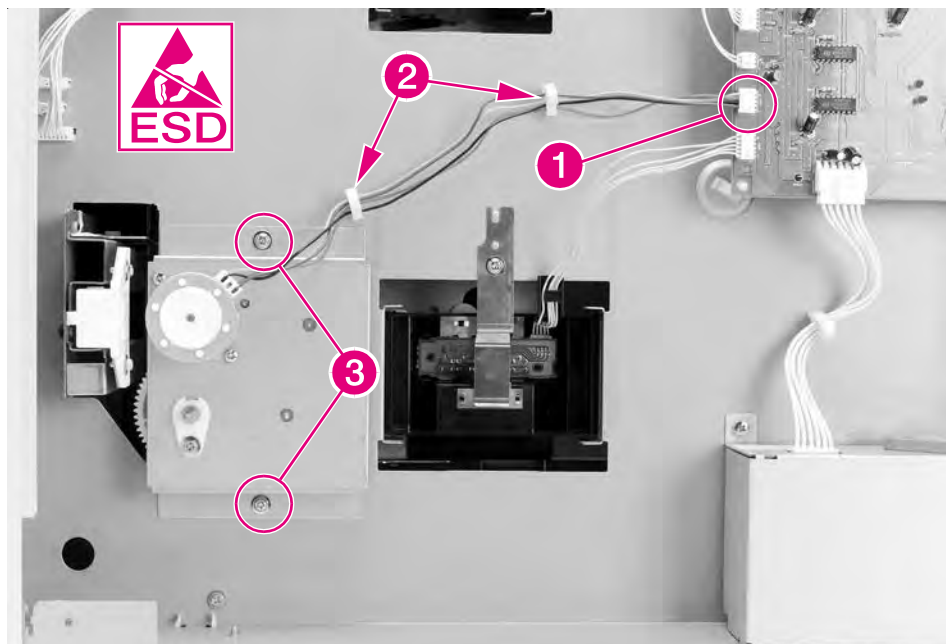

Figure 6-68 2000-sheet Input Tray Main Drive Assembly
- 2 Locate the cable that runs from the Main Drive Assembly on the 2000-sheet Input Tray to the unit's Controller PCA. Disconnect the cable from the J206 connector on the Controller PCA (figure 6-68, callout 1).
- 3 Release the cable from the 2 cable clips that hold the cable to the chassis (figure 6-68, callout 2).
- 4 Remove the 2 screws that connect the Main Drive Assembly to the chassis: 1 screw on top of the Main Drive Assembly and 1 screw on the bottom (figure 6-68, callout 3).
- 1** Reroute the cable through the cable clips (figure 6-68, callout 2) and reconnect the cable to the J206 connector on the Controller PCA (figure 6-68, callout 1).